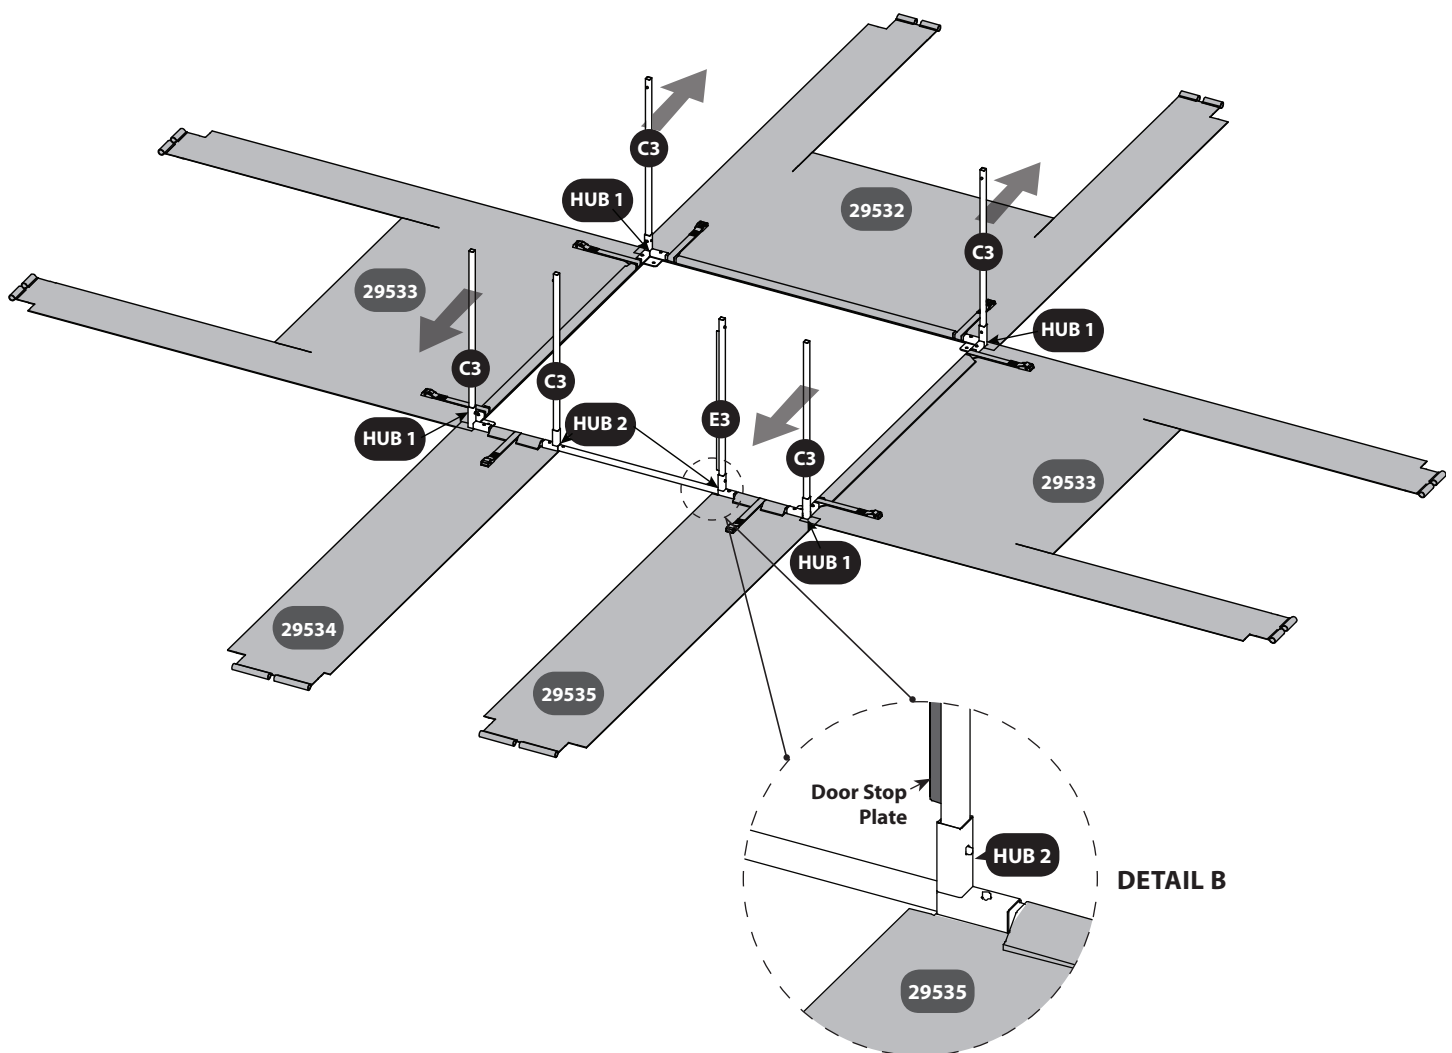

FIGURE 2
7. Locate five (C3) poles and one (E3) pole and slide into corner hubs (HUB 1) and bottom door hubs (HUB 2) so that the snap buttons secure pieces together as shown in **FIGURE 2**. Be sure that the door stop plate on pole (E3) is facing interior of blind as shown in **DETAIL B**.